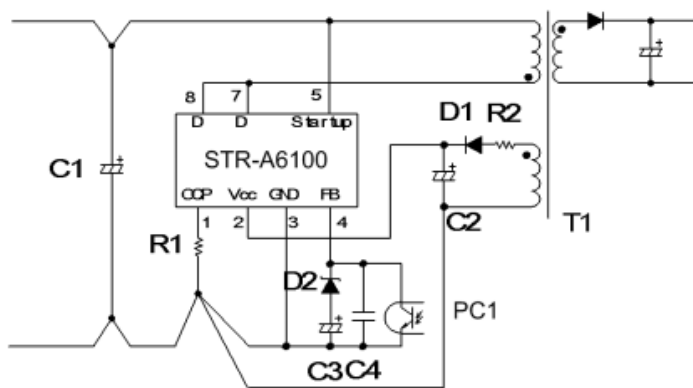

Figure 15 – Typical Connections
- In case of an unstable operation due to unique load requirements or high ripple voltage on the smoothing capacitors, a capacitor (C4 of approximately 680 pF) is inserted as shown in Figure 15.
As shown in Figure 15, all traces in the loop from the OCP pin to the drain pins (7 and 8) through R1, C1, and T1, where high current flows, should be kept as thick and short as possible. To eliminate common impedance, the GND pin and its peripheral components should be located as close to R1 as possible.